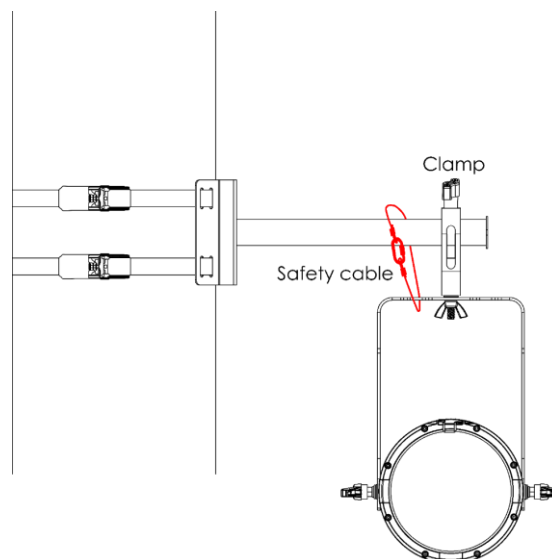

Fig. 09
- 01) Use a clamp to attach the external device to the **mounting tube (02)**, as shown in Fig. 09. Make sure that the external device cannot move freely.